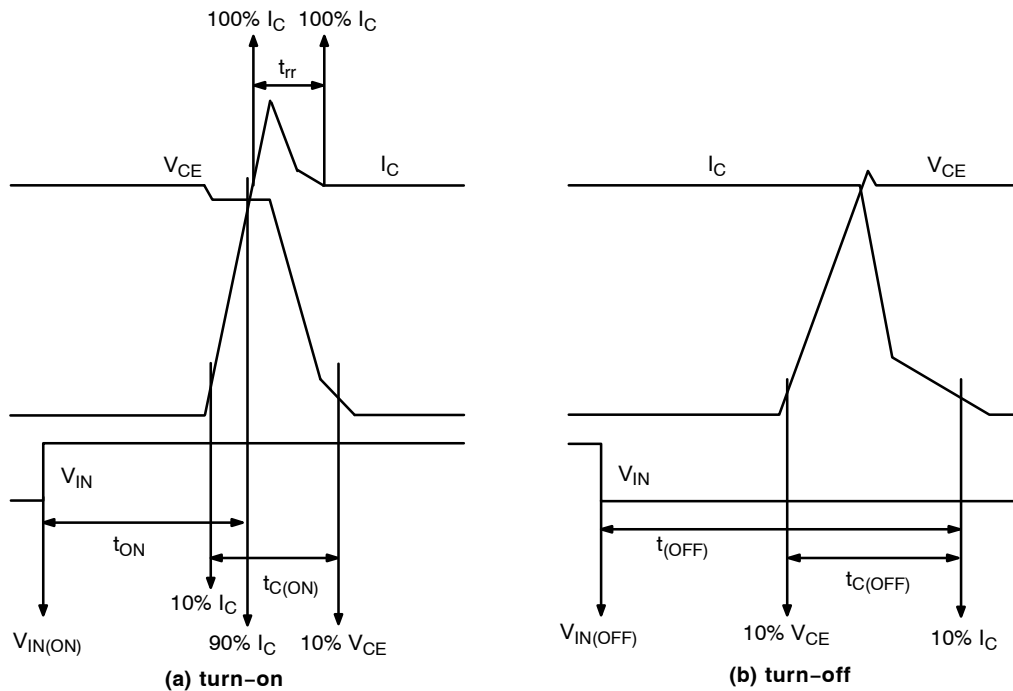

Figure 3. Switching Time Definition
6. t_{ON} and t_{OFF} include the propagation delay time of the internal drive IC. $t_{C(ON)}$ and $t_{C(OFF)}$ are the switching time of IGBT itself under the given gate driving condition internally. For the detailed information, *please see Figure 3*.